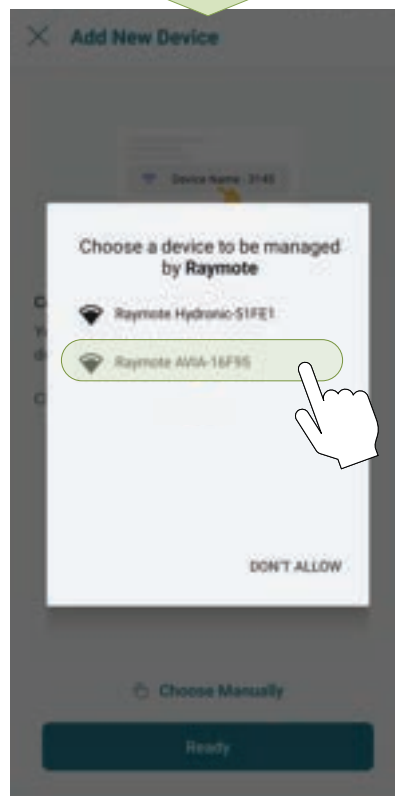

Figure 115. Connect with Android Smart Phone
5. **In Android:** Depending on your configuration, one or more devices will appear on the app. Select the HOTSPOT identifier that matches the unit's display as shown in **Figure 115**.